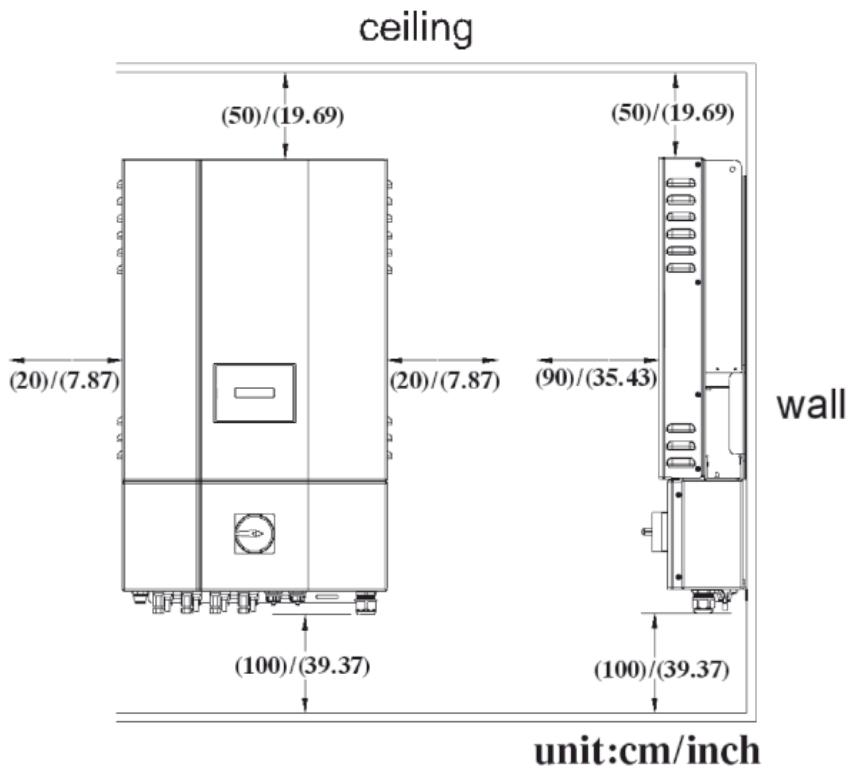

Fig 2.1.1 Clearances required for ISMGT1 inverter installation
2. Leave at least 50 cm (19.67 inches) of free space above and 100 cm (39.37 inches) below the inverter when installed outdoor. Allow 20 cm (7.87 inches) between inverters when installing multiple inverters for better ventilation (see figure 2.1.1).